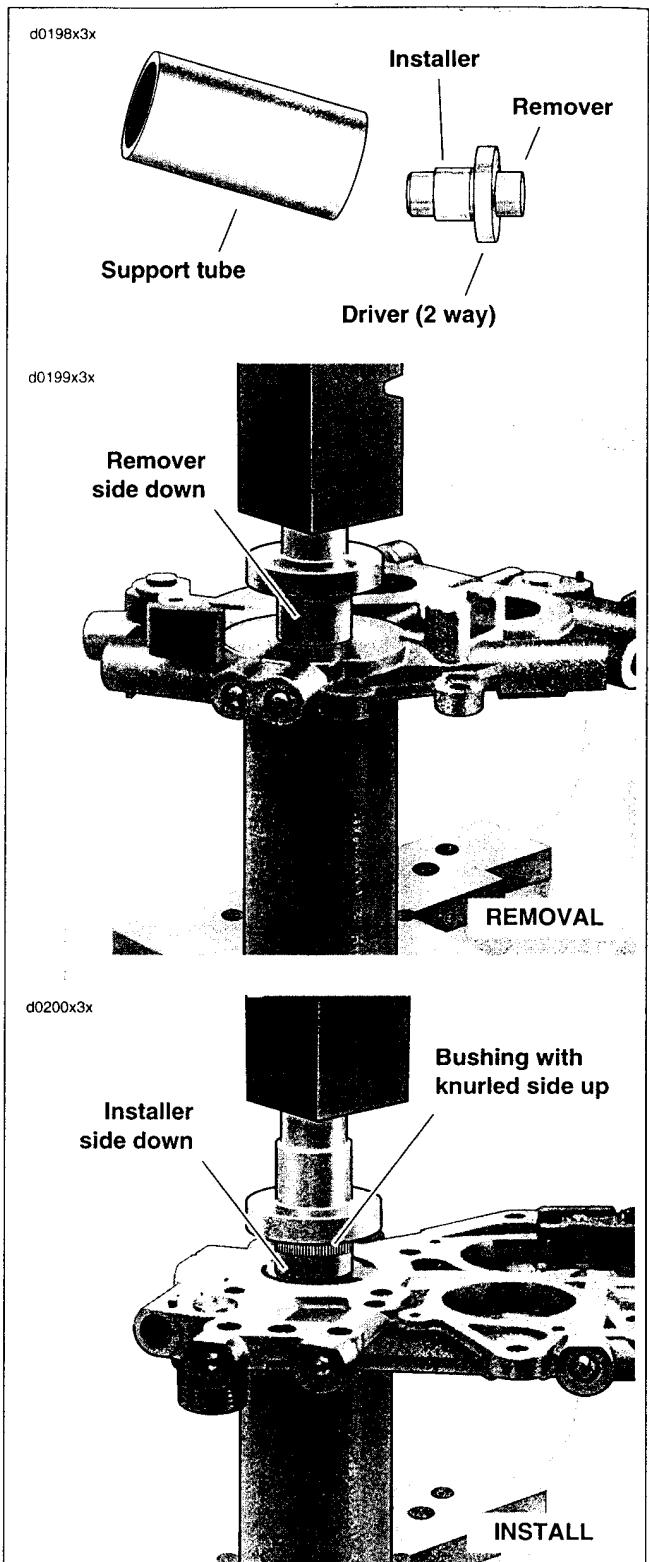

Figure 3-130. Crankshaft Bushing Remover Installer
1. See Figure 3-130. Obtain the CRANKSHAFT BUSHING REMOVER/INSTALLER (Part No. HD-42315).